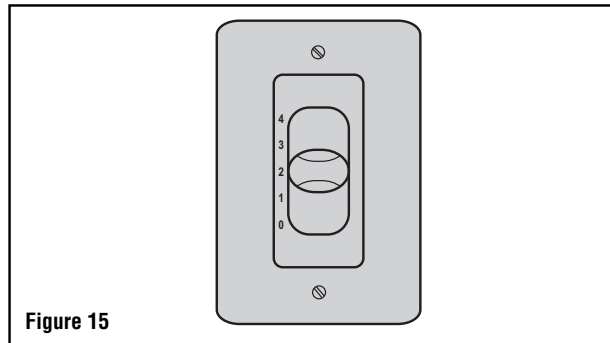

Figure 15
2. Check the operation of the fan by sliding the bar of the control through the four positions marked 1 - 4 ("0" position is OFF) (Figure 15).